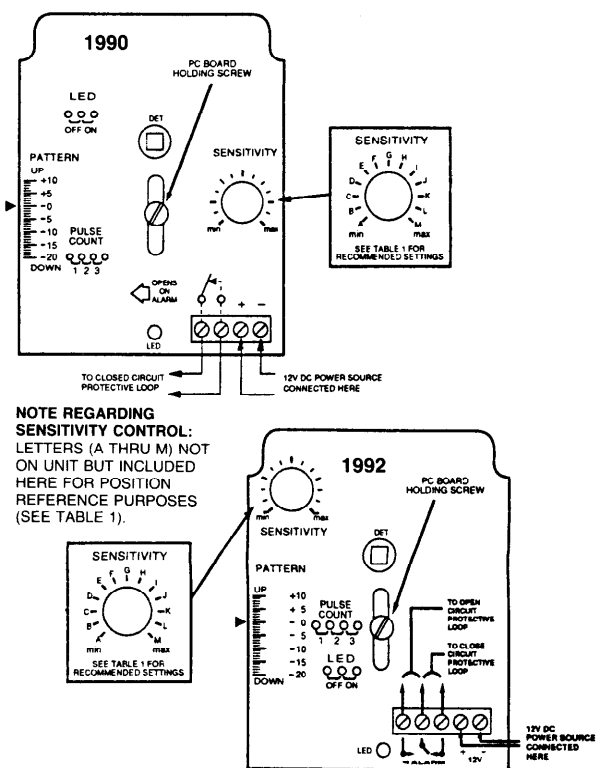

Figure 5: PC BOARDS, Nos. 1990 and 1992
- Re-install the PC board (with terminal block closest to the wiring access slot in the base). Before fully tightening the holding screw, make sure the board is positioned so that the arrow is in line with the appropriate setting on the graduated scale (see Table 1, and Figure 5).
The protection pattern provided by the lens in use can be raised or lowered by re-positioning the PC board in the detector. A graduated scale to the left of the board (see Figure 5) indicates the approximate number of degrees by which the pattern can be raised (max. +10°) or lowered (max. -20°). The detector is normally shipped with the board set to the 0° position. To make this adjustment, remove the cover on the detector and loosen the screw holding the PC board (the screw is located at the approximate center of the board). Slide the board upward or downward by the number of degrees required, then tighten the holding screw again. After any adjustment, you must conduct a walk test to ensure proper coverage of the area to be protected, as indicated under "Test Procedures".
Bring all wires in through the wire access slot near the terminal block and connect to the screw terminals (see Figure 5 for wiring details). Seal all openings in the base with foam or RTV (not supplied) to prevent drafts or insects from entering the unit. *Apply power only after all connections have been made and are inspected.*
Each detector includes Pulse Count circuitry that is designed to provide stability in adverse environments to minimize false alarms. Selectable 1-, 2-, or 3-event pulse count is provided by positioning a jumper across the appropriate pulse count terminals shown in Figure 5. When programmed for 2- or 3-event pulse count, the detector will signal an alarm within 3 or 4 steps, since the processing logic requires more complex motion than just a momentary event. When the detector verifies an intrusion, the LED (which serves as an alarm indicator) will light and the alarm relay contacts will transfer, both conditions lasting for approximately 1 to 3 seconds (dependent upon signal strength).
The detector is shipped with the Alarm LED enabled (LED CTRL jumper in the "ON" position). If desired, the LED may be disabled (after the "Walk-Test" is complete) by positioning the LED CTRL jumper in the "OFF" position (see Figure 5). When the jumper is in the "OFF" position, the LED will not illuminate, but the relay will transfer to report alarms when the PIR senses motion.
† See Figure 5 for location of adjustment scale on PC board (refer also to "E. Vertical Pattern Adjustment")